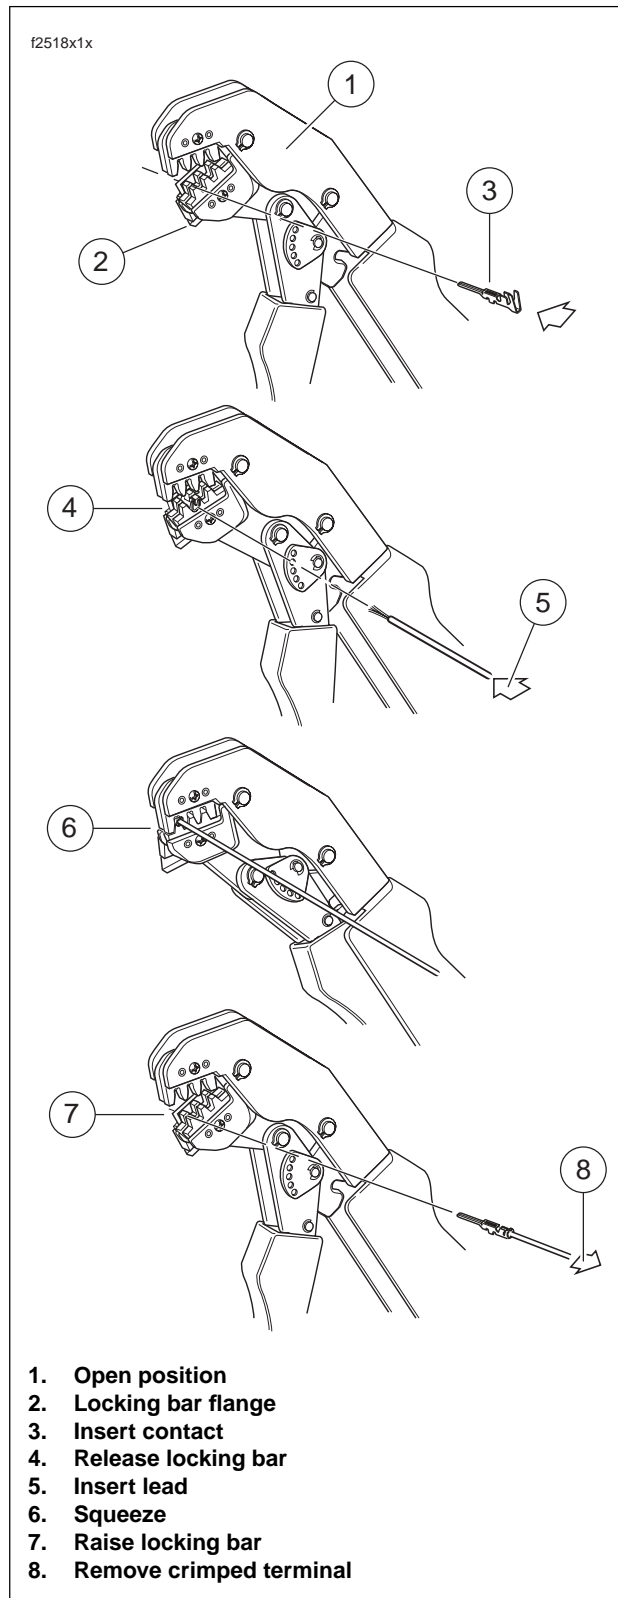

Figure B-6. Multilock Crimping Procedure
1. See Figure B-6. Squeeze the handles to cycle the AMP MULTI-LOCK CRIMPER (HD-41609) to the fully open position (1).
2. Raise locking bar by pushing up on bottom flange (2).
3. See Figure B-6. With the installation crimp tail facing upward, insert terminal (pin or socket) (3) through the locking bar, so that the closed side of the terminal rests on the nest of the crimp tool. Refer to Table 1-2.
4. Release locking bar to lock position of contact (4). When correctly positioned, the locking bar fits snugly in the space at the front of the core crimp tails.
5. Insert stripped end of lead (5) until ends make contact with locking bar.
6. Verify that wire is positioned (6) so that wire crimp tails squeeze bare wire strands, while insulation crimp tails fold over the wire lead insulation.
7. Squeeze handle of crimp tool until tightly closed (7). Tool automatically opens when the crimping sequence is complete.
8. Raise up locking bar (8) and remove crimped terminal.